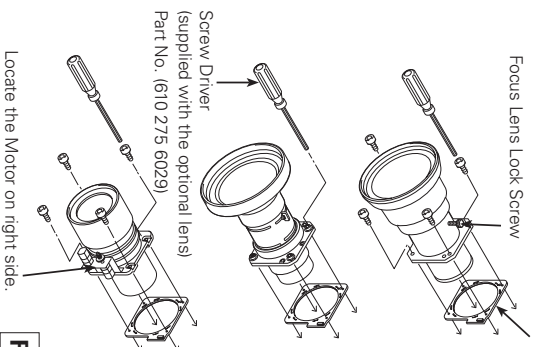
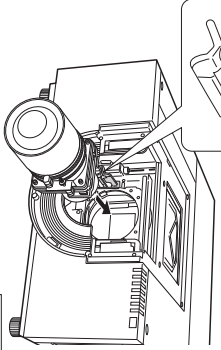
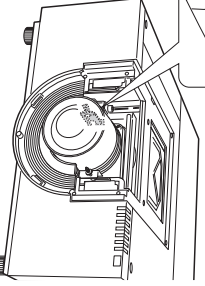

Fig. 1
Fig. 7
Fig. 8
Remove the safety lens cap on the rear of the lens (mounting side). Insert the Lens Attachment and secure with the four (4) screws (supplied). (See Fig. 1)
8 Grasp (release lock) the Lens Lock Lever and turn it fully upward. (See Fig. 7) Install the Lens into the projector. Grasp the Lens Lock Lever and turn the Lever fully downward until lever is Locked (clicked position) properly. (See Fig. 8) When installing the Motor Driven Lens, be sure to mount Lens Motor on right side. (See Fig. 1)
Set up the projector and project image on a screen. Loosen the Focus Lens Lock Screw and rotate the Projection Lens to obtain proper focus. After adjusting focus, be sure to lock the Projection Lens with the Focus Lens Lock Screw securely. (See Fig. 1)